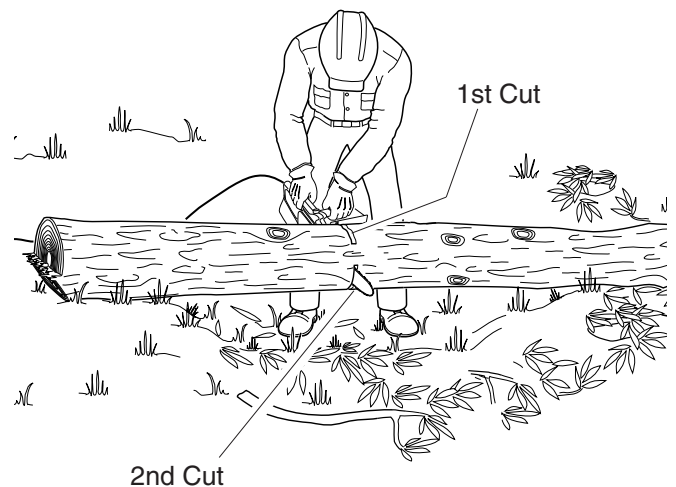

Figure 17 - Bucking Log When Log Is Supported On Both Ends
1. Make first cut from above log (see Figure 17). Cut 1/3 through diameter of log. This cut will keep section from splintering when cut.